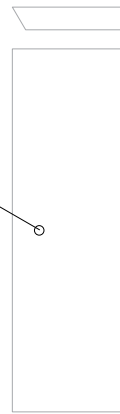

Fig. B3.03b
3. Using a Forstner bit  $\varnothing$  42 mm, drill a hole **(60.2)** in the cut-to-size planking for opening the control hatch. (Fig. B3.03b)